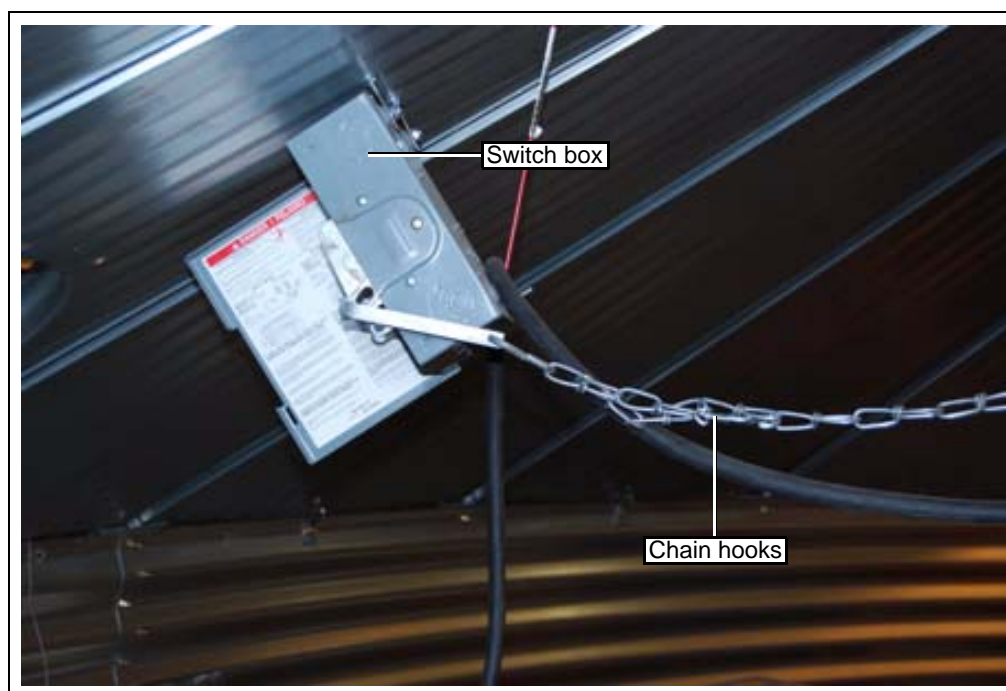

Figure 4AP
- String the lead-in wire through the chain link clevis on the bottom of the suspension bar toward the bar with the safety chain "S" hook. (**Do not attach the wire to the end of the suspension bar.**) The lead-in wire can then be suspended above the safety chain and routed to the switch box. (See Figure 4AQ on Page 42.)